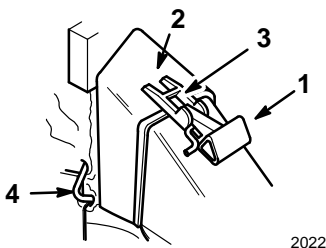

Figure 36
2. Ensure that the discharge door handle is fully forward (door closed) (Fig. 36).
3. Fit the bag door opening over the discharge tunnel opening as shown in Figure 36.
2. Lift the door latch until it clears the bag notch and move the discharge door handle forward (Fig. 36).